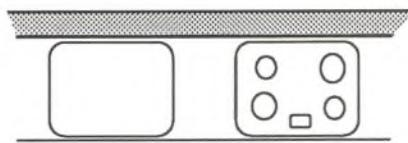

Fig. 9.8 Drawing a range.
2. Draw either the one-piece range or the cooking top, by selecting from the drawing guides or using a template. (See Fig. 9.8.)